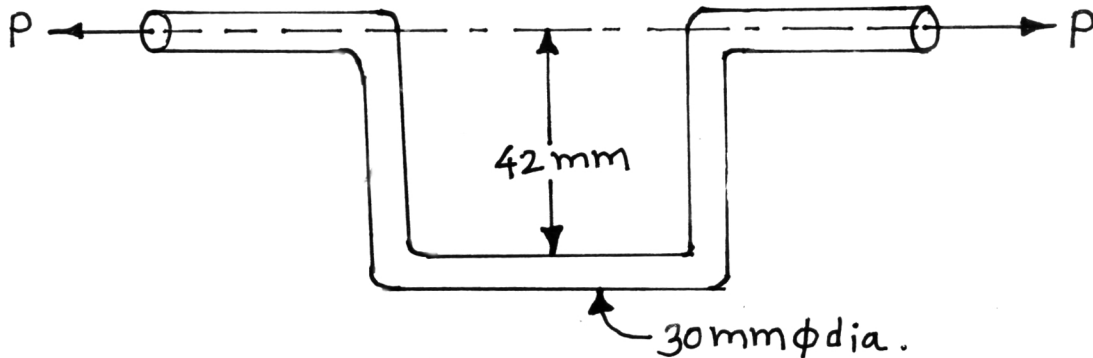

Figure No. 2.
- d) A 30 mm diameter rod is bent up to form an offset link as shown in Figure No. 2. If permissible tensile stress is 90 N/mm^2 , calculate maximum value of 'P'.